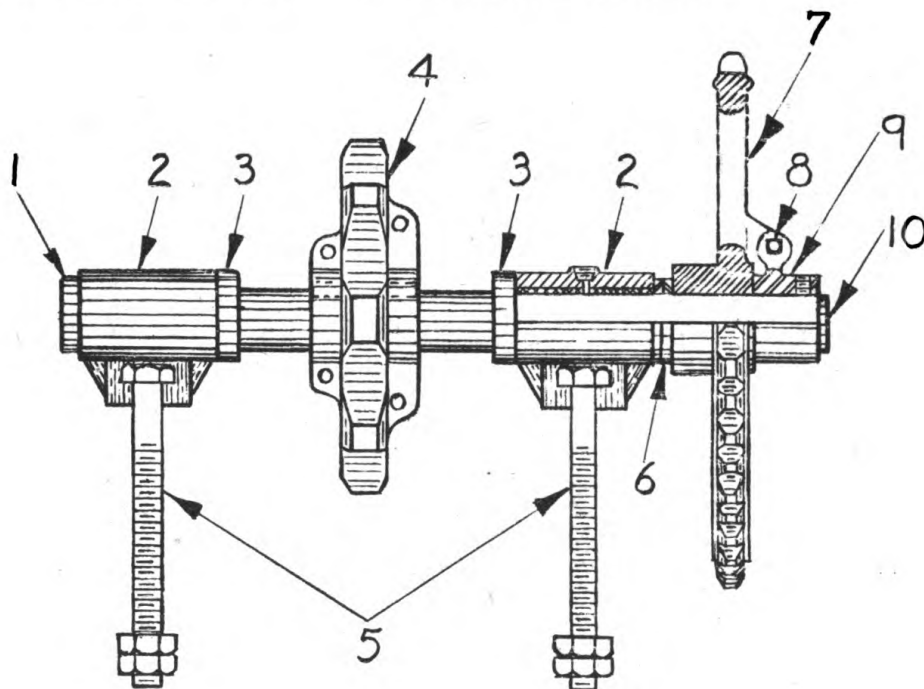

FIGURE 115
1. Remove safety breaker bolt (8) Fig. 115 that interlocks the sprocket and the stationary hub on end of shaft.
2. Loosen set screws in hub (9), remove hub.
3. Sprocket (7) is loose on shaft.